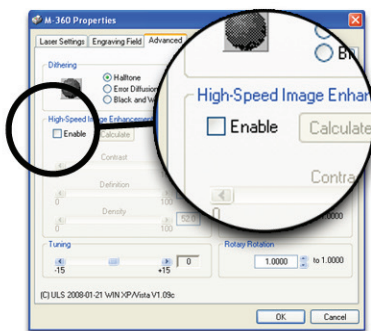

Figure 1
2. Disable Image Enhancements in the “Advanced Tab” of the Driver - Figure 1.